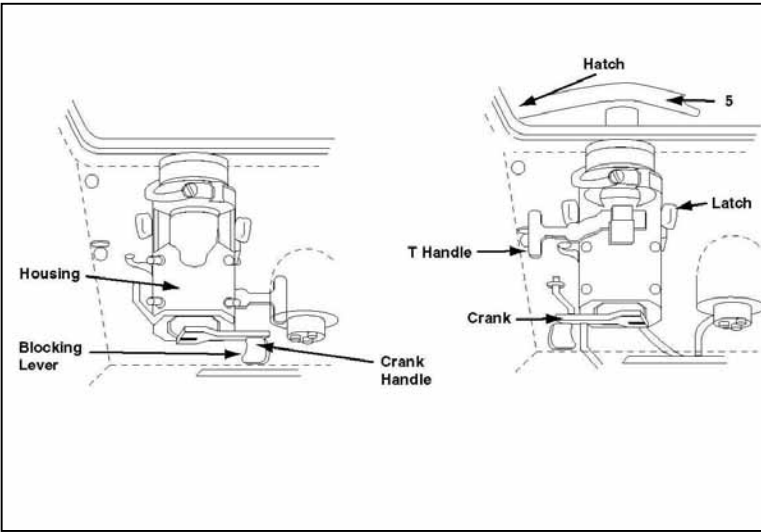

Figure 4-1-4: Turret Hatch
- a. To half open the turret hatch (see Figure 4-1-4) proceed as follows: